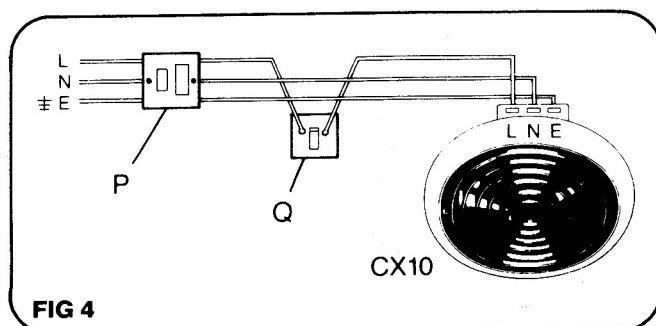

FIG 4
1. Remove the inlet grille (E) from the grille surround (D) by rotating the inlet grille (E) anti-clockwise.
2. Fit fixing screws (B) to the motor/duct assembly (C).
3. Pass the motor/duct assembly (C) through the hole space in the ceiling and position with screws (B) protruding through the hole.
4. Offer grille surround (D) over fixing screws (B) and lock into locating holes with a clockwise rotation. Tighten fixing screws (B).
5. The inlet grille (E) is inserted into the grille surround (D) and rotated in a clockwise direction until it locks into position.
6. From loft, void or attic connect the supply cable to the fan terminals in the terminal box (A) as shown in fig 4.
The CX10 must be connected to the supply with fixed wiring through a 5A fuse and a suitable double pole isolating switch with contact gap 3mm minimum (P) (not supplied) used only to isolate the fan for maintenance or cleaning purposes (see fig. 4).
Operation of the CX10 should be effected by an On/Off control switch (Q) (not supplied) see fig 4.